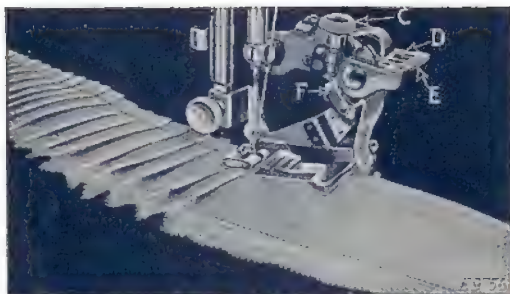

FIG. 64
Raise the adjusting lever (E, Fig. 64) and move it to the right so that the projection (D, Fig. 64)
will enter the slot marked "6" in the adjusting lever when the lever is released. The ruffling blade will then move forward and back once at every six stitches. To adjust the ruffling blade to make a plait once at every twelve stitches, place the adjusting lever (E, Fig. 64) so that the projection (D) enters the slot marked "12" in the adjusting lever. Insert the material to be plaited between the two blue blades, following the line 2 (Fig. 59). The size or width of plaits is regulated by the adjusting screw
(C, Fig. 64) and the adjusting finger (F, Fig. 64). To make a wider plait, move the adjusting finger (F) back or toward the needle and turn the adjusting screw (C) downward. To make a smaller plait, turn the adjusting screw (C) upward. The distance between plaits is regulated by the length of stitch.